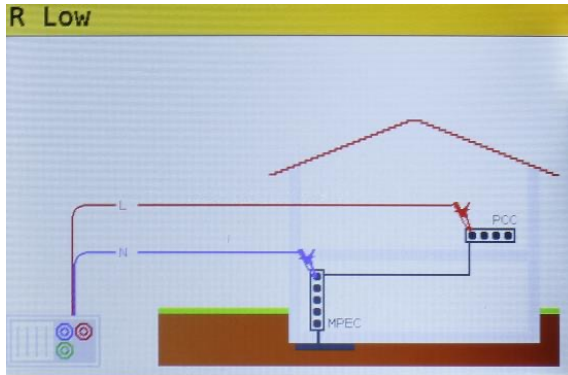

Figure 5.6: Connection of universal test cable
- Step 4** Ensure that the item/circuit for testing is disconnected from any voltage source and that it has been fully discharged. Connect the test cables to the item under test. Follow the connection diagrams shown in figures 5.6 and 5.7 to perform a R Low resistance measurement.